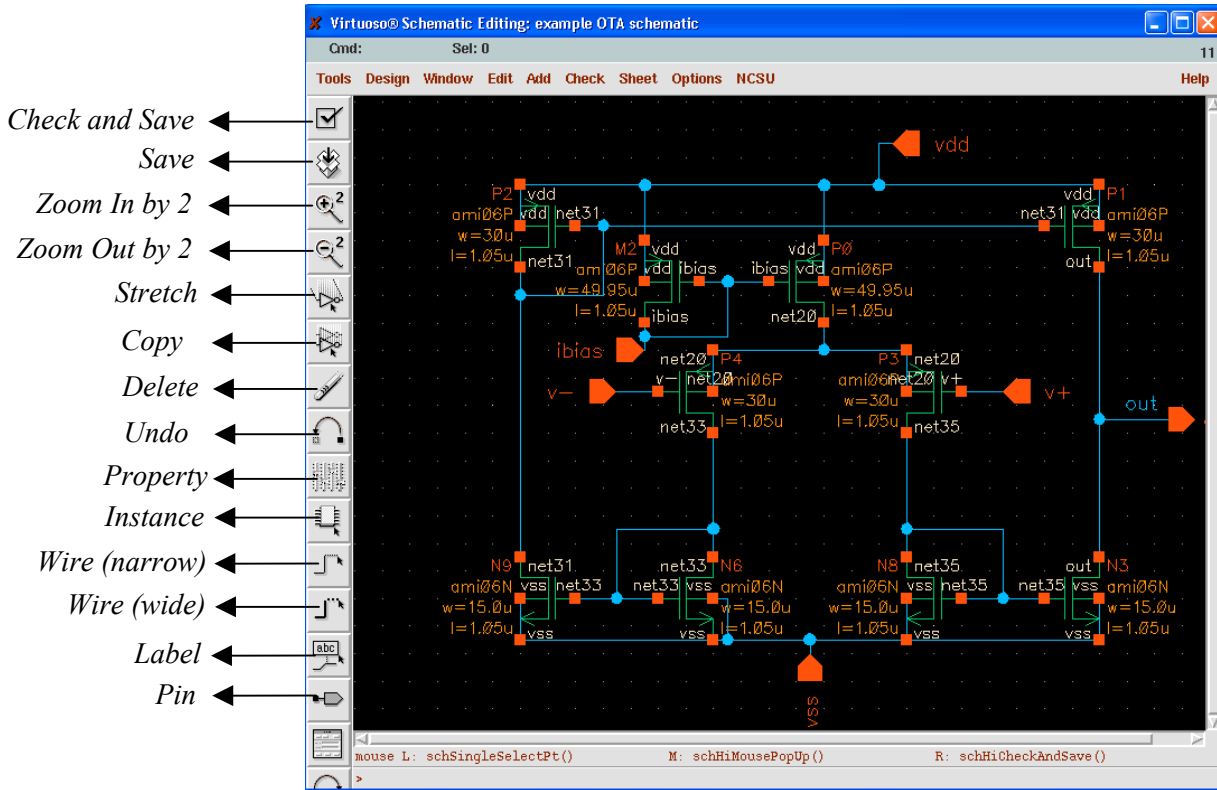

Figure 5. Composer Schematic Editor window
An empty blank Composer - schematic window should open. In this window you will create your schematic. The final schematic is shown in Fig. 5 (the icon actions are also shown). To create it, you can employ the window top menus or left icons (or also shortkeys). This multiple access to
- a) First, you have to create pins in your schematic in those non-global nets (inputs, outputs, supplies perhaps) that have to be accessible outside the symbol. For doing this, you can select the **Create Pin** icon in the Composer schematic window, select the pin name, its input or output configuration, etc, and then click at the end of the wire when the pin has to be placed. Six pin icons have been placed in the example of Fig. 5: **v+**, **v-**, **ibias**, **vdd**, **vss** (input pins) and **out** (output pin).